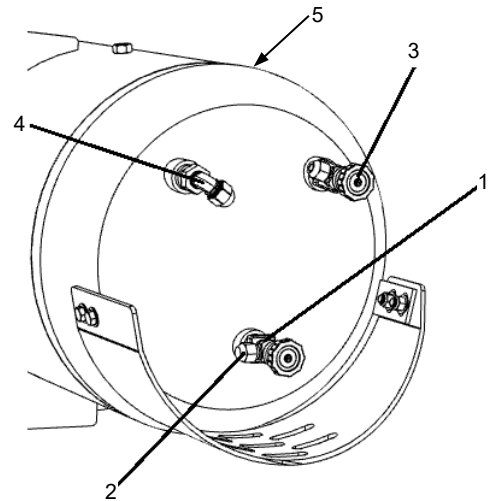

Figure 1:
3. Remove Fuel Drain Valve Cap (2) from Fuel Drain Valve (1). *Figure 1*
4. Connect Fuel Transfer Hose (*not shown*) to Fuel Drain Valve (1). *Figure 1*